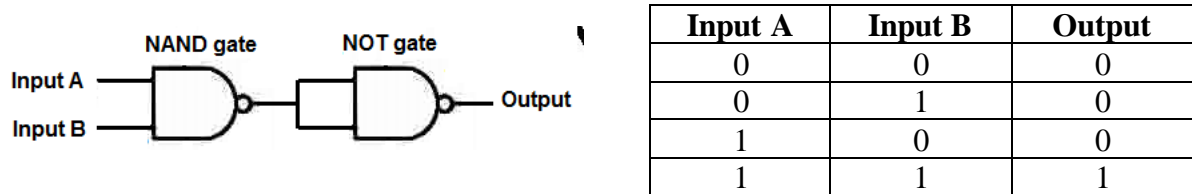

Figure 15: AND gate using NAND Gate and Truth table
3. Draw the IC Connection Diagram for Figure 15, 17: